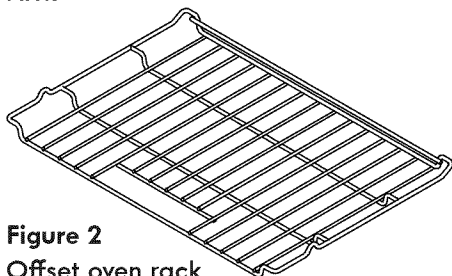

Figure 2
- Offset oven rack (Figure 2).
The Offset Oven Rack is used to maximize cooking space (See Figure 2). The offset rack can be used in the lower rack position to roast large cuts of meat and poultry.